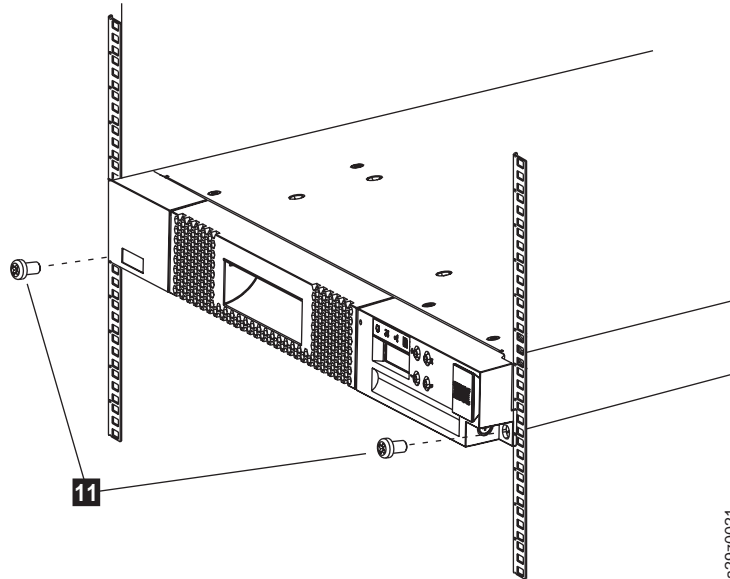

Figure 149. Securing the front of the library in the rack
- Slide the library chassis into the rack. Secure the front of the library to the rack with the large black screws **11** in the bottom holes on each front bracket (Figure 149).